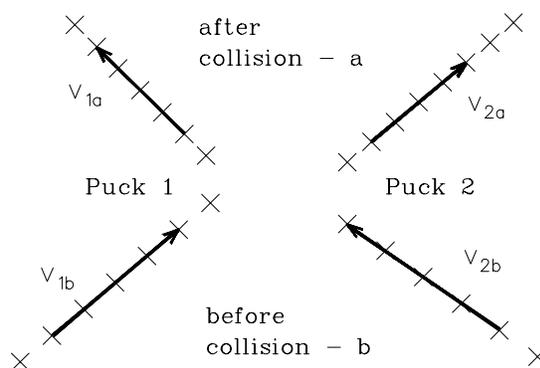

Figure 4.2: Collision vector labels
1. Starting with Puck 1, select **cm A** in the Tracker **Plot** and **Table** windows. The track plot should consist of two collinear series of dots. The series of dots from time $t = 0$ to the moment just before the track changes direction due to the collision are used to define the velocity vector before the collision for Puck 1, labelled v_{1b} in Figure 4.2. The series of dots that are made after the collision define the velocity vector after the collision for Puck 1, labelled v_{1a} in Figure 4.2.